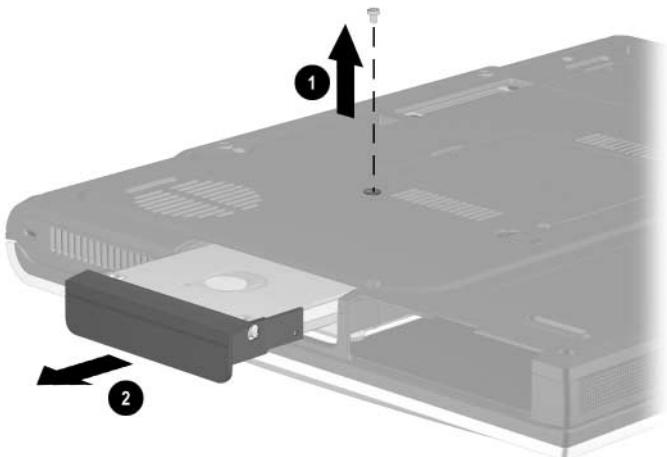

Figure 5-5. Removing the Hard Drive
- b. Remove the PM3.0 × 4.0 hard drive retention screw ① (Figure 5-5).
- c. Slide the hard drive forward ② to unseat the hard drive connector from the system board.